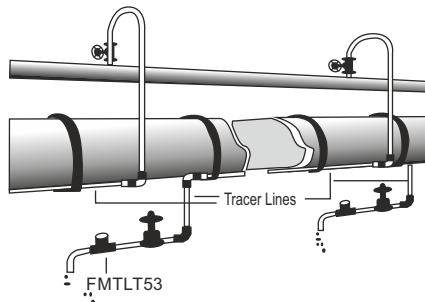

Figure 3: Installation of Forbes Marshall Tracer Line Trap in tracer line
7. Installation locations for Forbes Marshall Air Vent [FMAV53] when used in tracer lines and air vent applications as shown in figure 3 and 4 respectively.